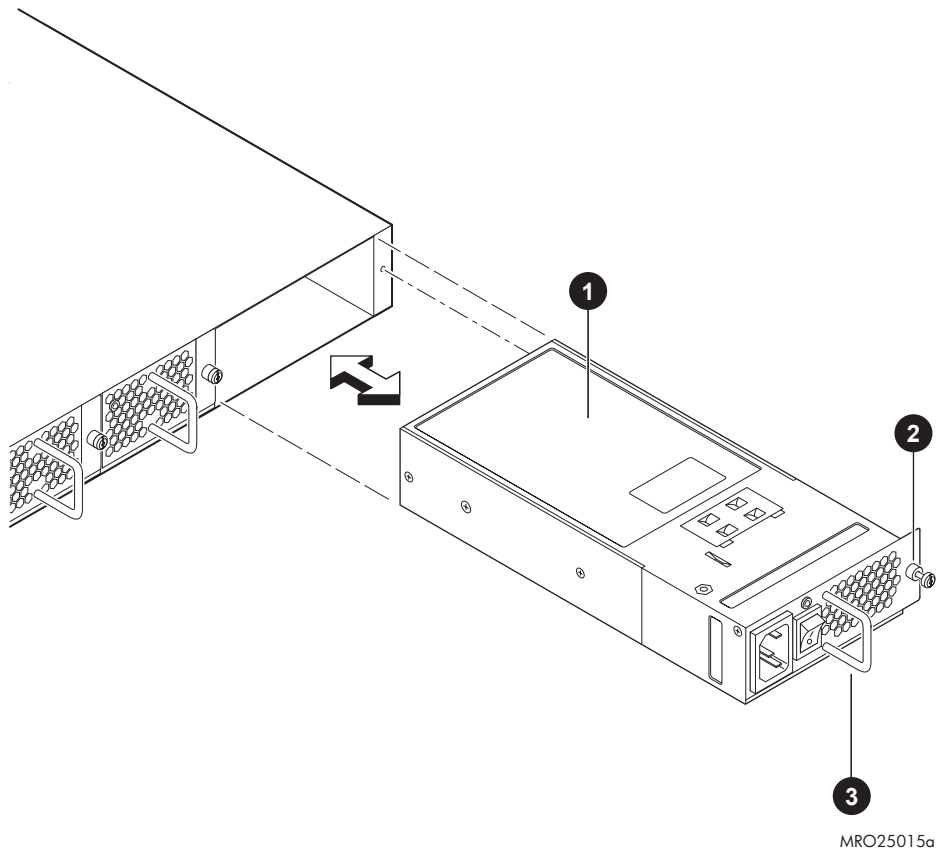

Figure 25 Inserting the power supply in the SAN Switch 4/32
2. If the power supply you are replacing is not already powered off, press the AC power switch to the circle symbol  to power it off. Figure 25 shows the location of the AC power switch.
- a. Orient the power supply as shown in Figure 25, with the AC power receptacle on the left. See Table 22 for power supply components.
9. Optional step: issue the `psShow` command at the CLI prompt to display power supply status. Fabric OS identifies the power supplies in a SAN Switch 4/32 from left to right as PS2 and PS1, as shown in Figure 25.